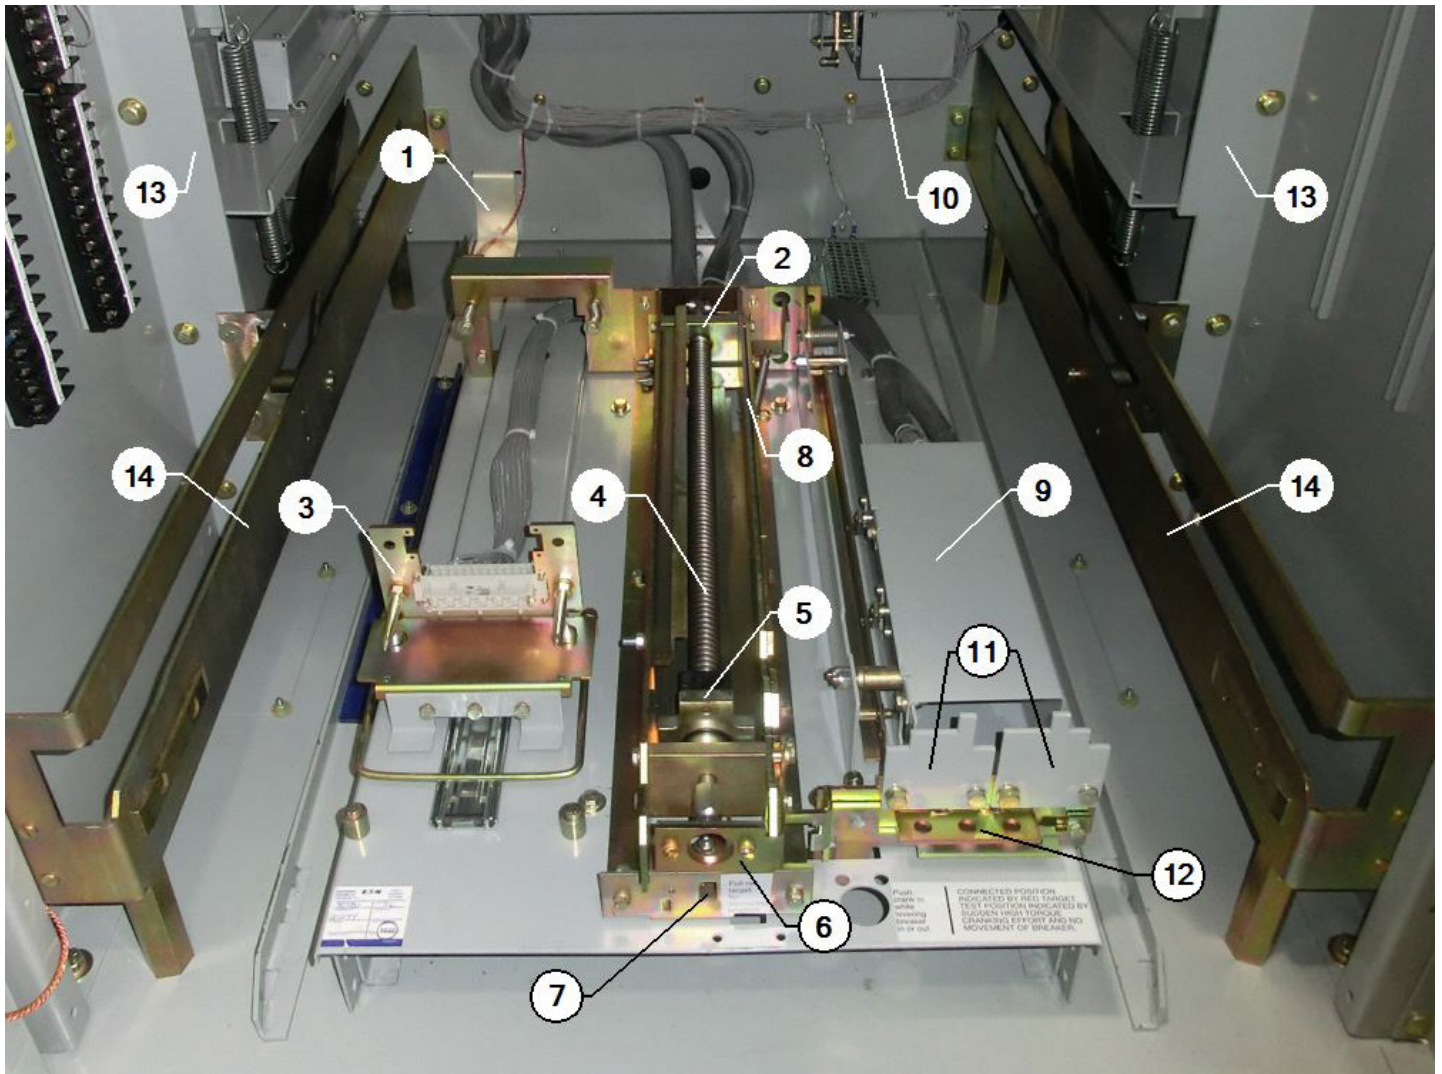
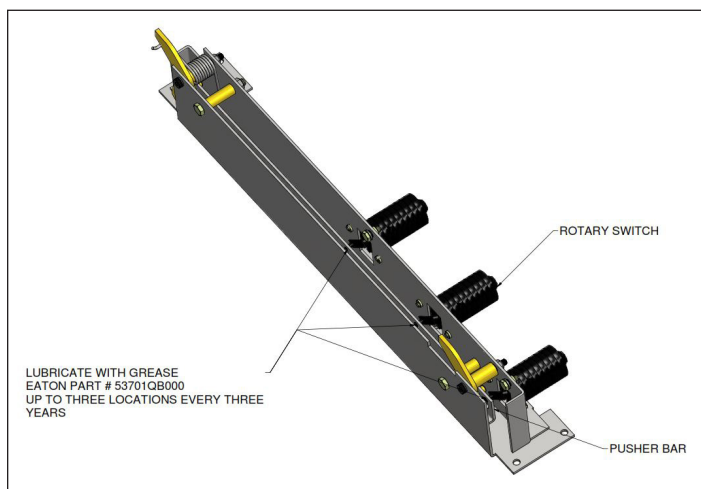

Figure 15. Pan Assembly.
Figure 16. Lubrication Locations for the MOC Switch.
1. Coding plates (see Figure 15)
2. Move the LOTO slider to the left in order for the LOTO slider to engage the slider used for racking (Refer to #6 in Figure 15).
Figure 15 callouts
1. MOC switch (refer to #9 in Figure 15) – Grease (Eaton Electrical Material No. 53701QB) should be applied to the three locations where the rotary switch assemblies link to the Push Bar assembly (see Figure 16). This should be done at least every three years.